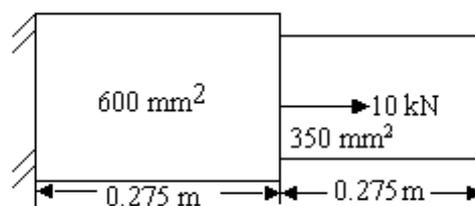

Figure 6
6. Consider axial vibrations of the steel stepped bar as shown in figure6: